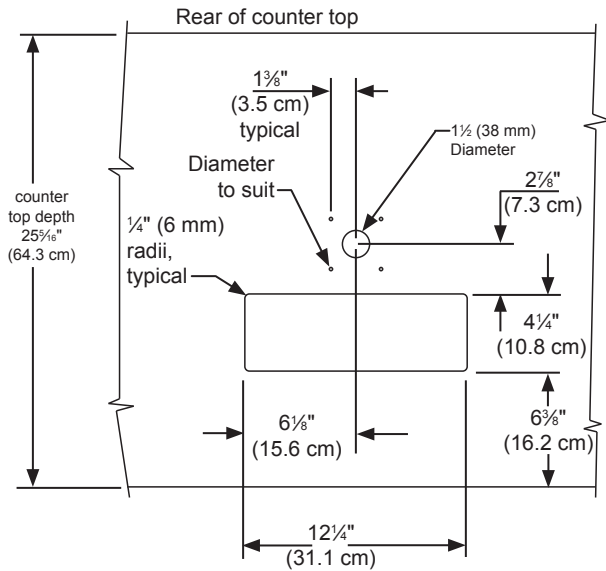

Figure 29
The cutout dimensions shown in Figure 29 are based on a $25\frac{5}{16}$ " (64.3 cm) deep counter top. Your counter top may be different than this and require other front to back dimensioning. Refer to the product dimensions on page 8 when determining the required dimensions.
- If you are installing your keg refrigerator under a counter you will need to drill 5 holes in the counter top to mount the tower. The first hole is a $1\frac{1}{2}$ " diameter hole located at the center of the tower for the beer line, locate approximately $13\frac{1}{2}$ " (34.3 cm) from the front edge of the counter top (based on a counter top depth of $25\frac{5}{16}$ "). Next drill the 4 tower mounting holes per the dimensions in Figure 29. The hole diameter is dependent on the counter top material and if screw anchors are required. The screws supplied are in the literature pack and are a #10 x 1" type AB stainless steel screw. Mark and cut the rectangular cutout for the drain sump. After the holes are drilled and the keg refrigerator is in place under the counter top feed the beer line through the tower gasket, the $1\frac{1}{2}$ " hole in the counter top and the hole in the top of the keg refrigerator. Mount the tower to the counter top with the 4 screws provided. Place the counter top drain sump, from the literature pack, in the rectangular hole with the radius cutout to the rear around the tower and place the grate in the sump.